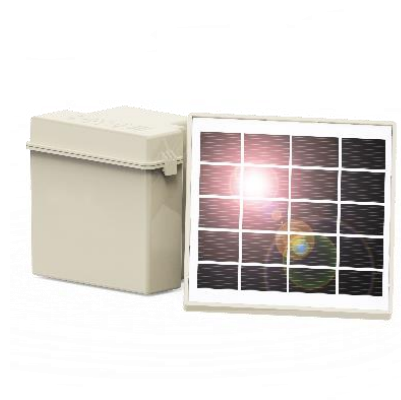

Figure 2-3: Repeater appearance.
2.2.1 Device appearance: As shown in Figure 2-3.